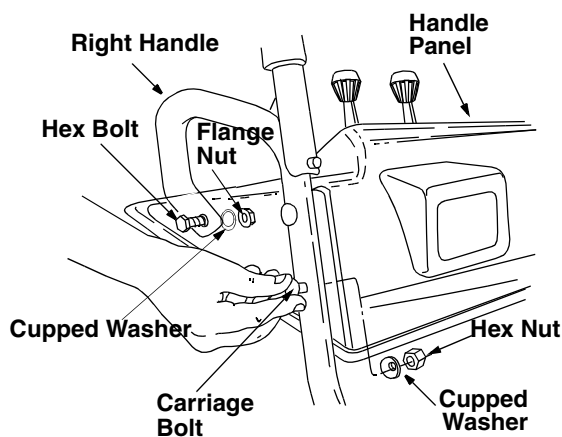

Figure 3
- Place the handle panel in position between the handles so the ends of the curved part of the handles go through the slots in the handle panel. See Figure 3.
- While placing the handle panel, make sure to route chute and chute cable between the handles underneath the panel keeping the cable on top of the engine. Align the holes in the handle with the holes on two sides of the handle panel. See Figure 3.
- Attach the handle panel to the handle with two carriage bolts, cupped washers (cupped side against the handle panel) and hex nuts on each side. Align the contour of the carriage bolt head with the handle. See Figure 3. You will find these fasteners in the hardware pack (group B on page 5). Repeat on other side.
- Align the hole on the curved part of the right handle with the corresponding hole on the right side of handle panel making sure that this end of the handle is firmly placed in the slot on the handle panel. See Figure 3.
- Insert a hex bolt, cupped washer and flange nut from Group F of the hardware pack through these holes as shown in Figure 3. Tighten to secure. Do not attach the left side now.